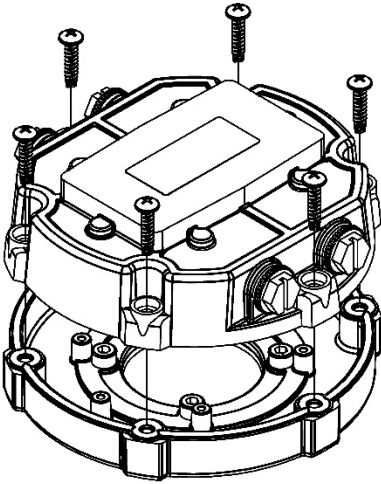

Figure 13
- Remove (6) screws retaining the cover plate to the base and lift the cover plate free of the meter body (see Figure 13).